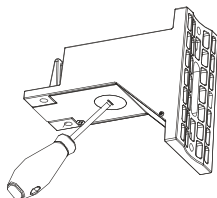

Fig. 46
1. Use a screwdriver to pry open the induction reserved hole on the bracket or use a hammer to hit the reserved hole on the fixture as shown in Fig. 46.